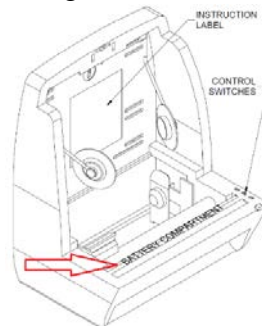

Fig. 3
3. If using mechanism for battery operation, install 8372 mechanism with four (4) 1/4-20x3/8 Phillips pan head screws through slots marked  into tapped holes in cabinet back and continue onto step 4 below. **For AC (plug-in) operation, go to next page.**
5. The battery compartment is located at the front lip of the mechanism (Fig. 3). The cover to the battery compartment is removed by pushing the left hand tab inward and lifting up.